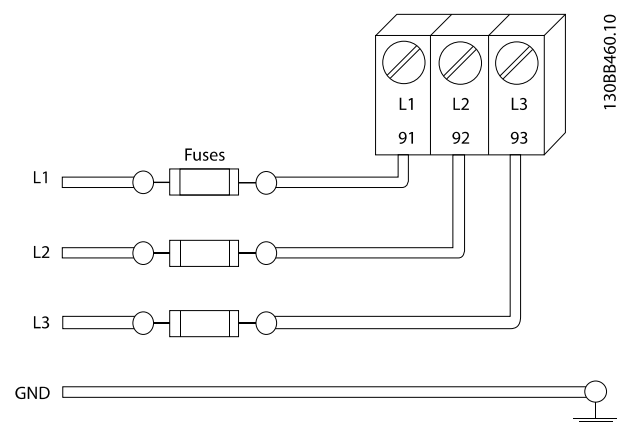

Figure 2.7 Adjustable Frequency Drive Fuses
- All adjustable frequency drives must be provided with short-circuit and overcurrent protection. Input fusing is required to provide this protection, see *Figure 2.7*. If not factory supplied, fuses must be provided by the installer as part of installation. See maximum fuse ratings in 10.3 *Fuse Tables*.